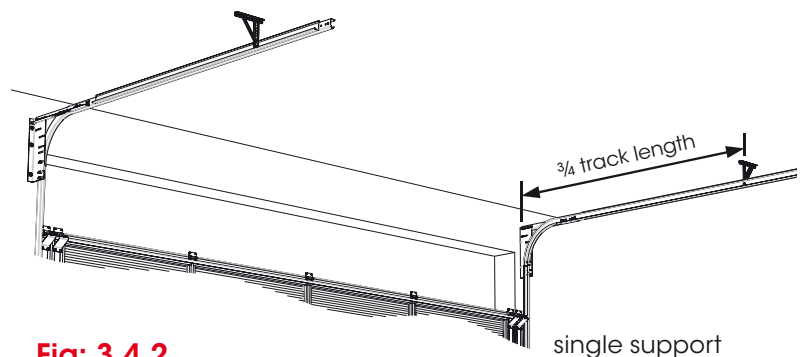
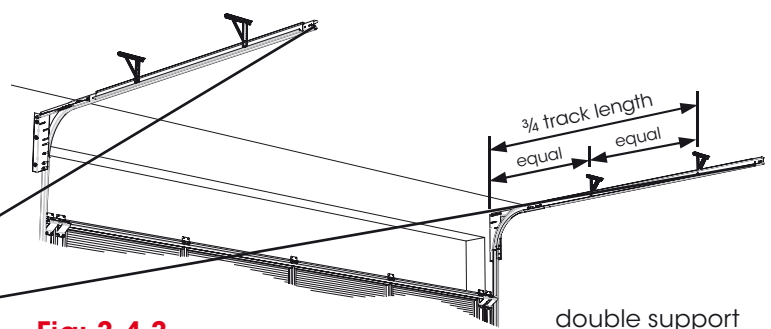

Fig: 3.4.2
Fig: 3.4.3
- Measure along the horizontal track to the desired position and find a structurally sound location to fix your support to the ceiling or side wall. Fig 3.4.2 or Fig 3.4.3.
**WARNING!** For all doors higher than 2280mm and/or wider than 4700mm, or heavier than 110kg, two (2) ceiling supports must be fitted per horizontal track.